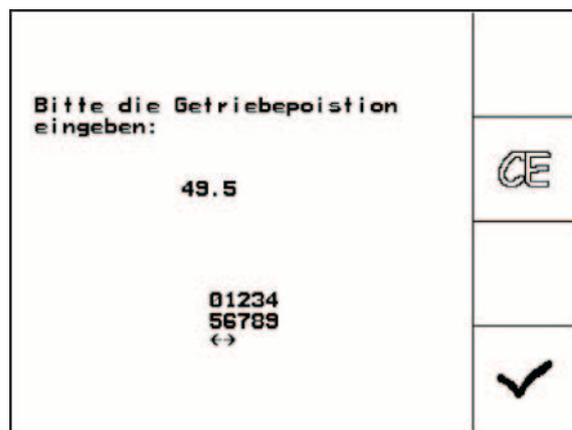

Fig. 83
4.  Confirm the settings and enter the scale value indicated by the gearbox lever on the scale in the menu window that opens (Fig. 83).